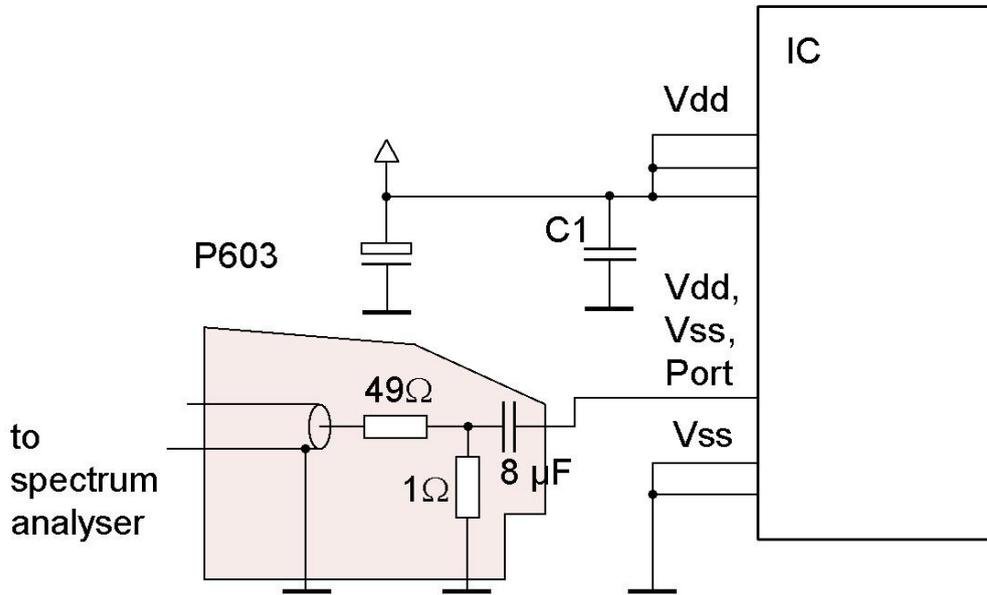

Figure 9: P603, current measurement on a single Vss pin.
2. Current measurement (**P603**) on a single Vss pin, **Figure 9**